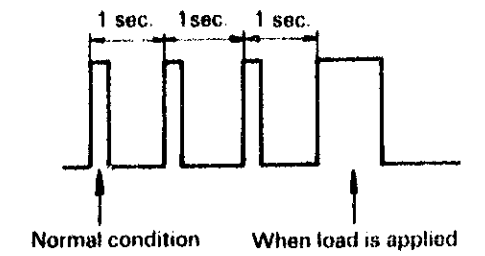

Fig. 2
- In Cal. Y591A, the drive pulse width changes according to the load required to drive the step motor. In the normal conditions, the circuit supplies the minimum power to drive the hands. If the extra load is applied (to drive calendar, or at a low ambient temperature), an enough pulse is supplied to overcome the load (Fig. 2).